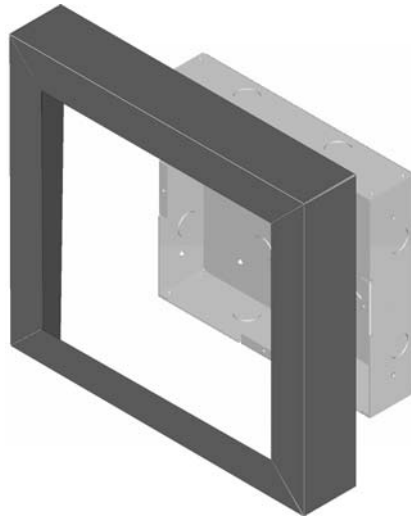

Figure 4-29 Installing Trim Ring
4. Place the trim ring over the backbox as shown in Figure 4-29.